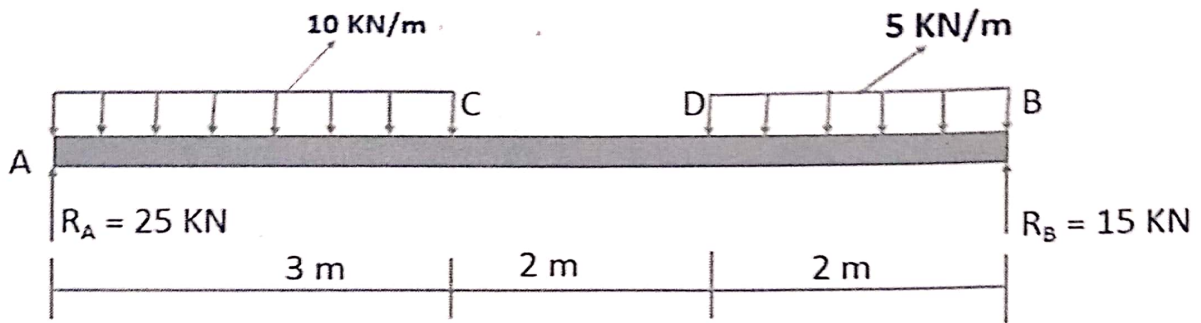

Figure Q5: Simply supported beam of length 7m
- (a) Draw the shear force and bending moment diagrams of a simply supported beam of length 7m carrying a uniformly distributed load as shown in Figure Q5. (9 marks)